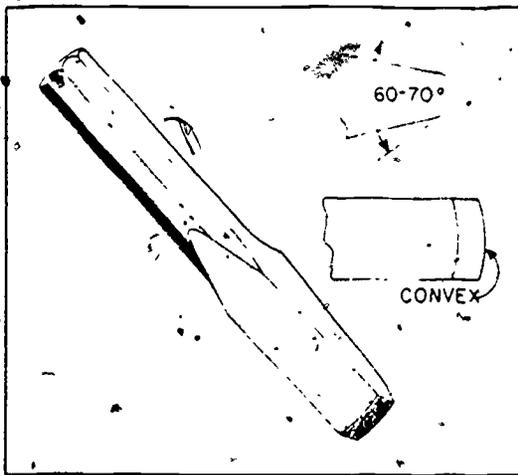

Figure 3-21 Cold chisel
**Cold chisel.** Cold chisels are tools used to cut or chip metal. The flat chisel, like the one shown in figure 3-21, is used by the plumber to cut cast-iron soil pipe and sheet metal. Keep the cutting edge sharp and ground to the original angle. The cutting angle is determined according to the hardness and softness of the metal to be cut. A cutting edge angle of 70° is fine for most light metals; however, an angle of 90° is recommended for hard and tough metal